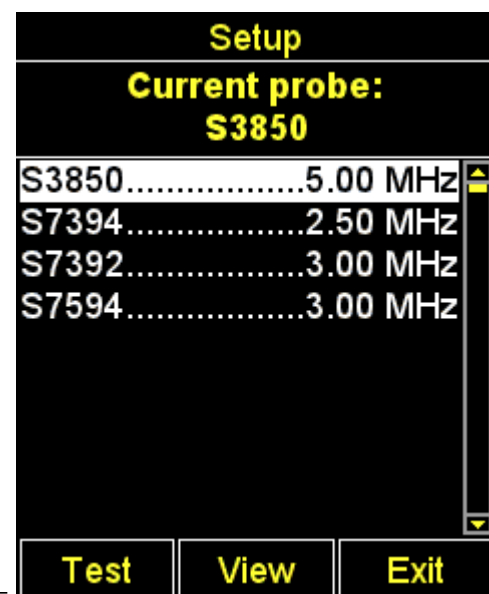

Figure 16
– By means of the keys   go to the line with the name of the connected probe (transducer) and press the key  to select it (Figure 16).